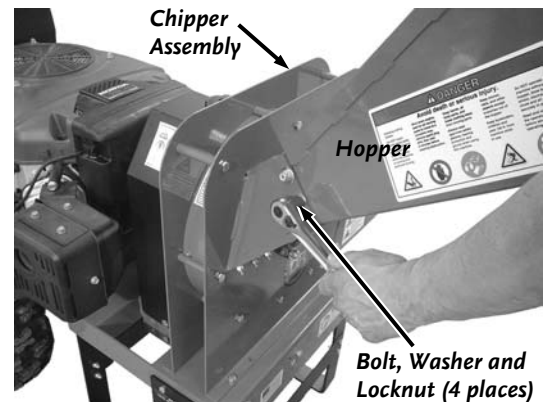

Figure 23
1. Use a 1/2" wrench to remove the four Carriage Bolts, Washers and Locknuts that support the Hopper to the Chipper Assembly (**Figure 23**).